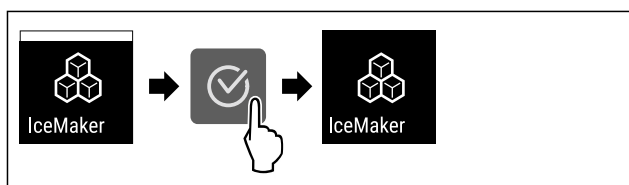

Fig. 21
- ▶ Complete the steps (see Fig. 21) .